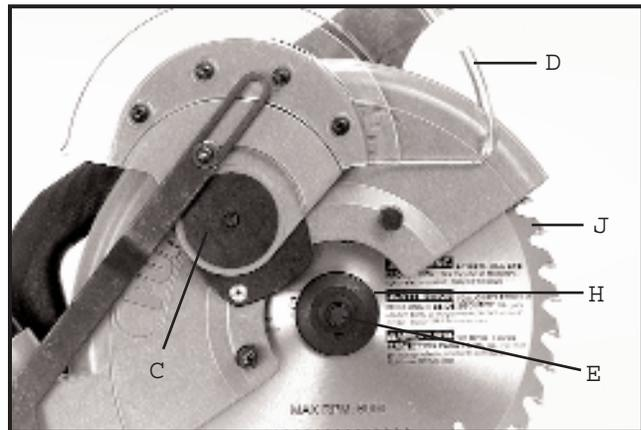
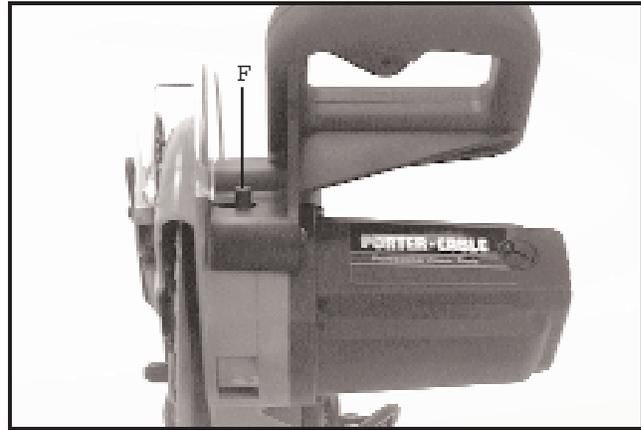

Fig. 52
Fig. 53
3. Rotate arbor cover (C) Fig. 52, and lower guard (D) to the up position, as shown.
4. Remove arbor screw (E) Fig. 52, by turning screw (E) clockwise while at the same time pressing in on arbor lock (F) Fig. 53, to keep arbor from turning. Remove screw (E) Fig. 52, outside blade flange (H) and blade (J). DO NOT REMOVE INSIDE BLADE FLANGE.
7. Install new blade (J) Fig. 52, outside blade flange (H) and arbor screw (E). Turn arbor screw (E) counterclockwise to tighten while pressing in on arbor lock (F) Fig. 53, to keep arbor from turning. IMPORTANT: Make sure flats in outside blade flange (H) Fig. 52, are engaged with flats on arbor shaft and that teeth of saw blade (J) are pointing down at the front, as shown in Fig. 52.